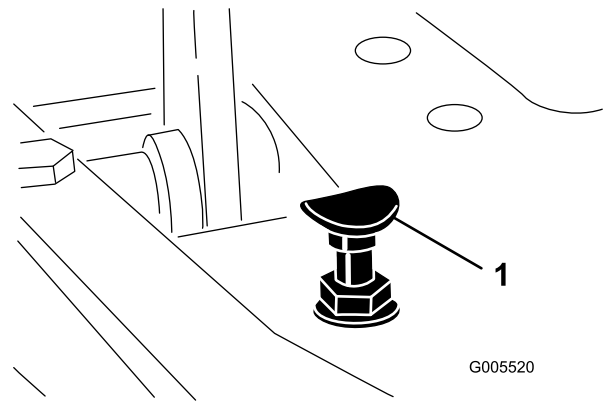

Figure 54
To obtain maximum transport speed, put the functional control lever in the transport position and press down on the traction pedal. If the pedal contacts the stop (Figure 54) before tension is felt on the cable, an adjustment is required:
1. Put the functional control lever in the transport position and loosen the locknut securing the pedal stop to the floor plate (Figure 54).